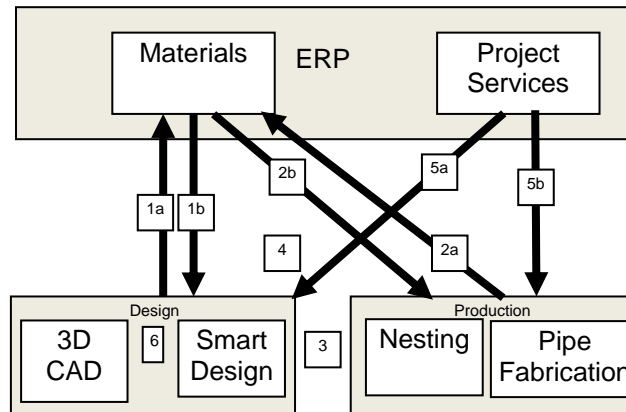
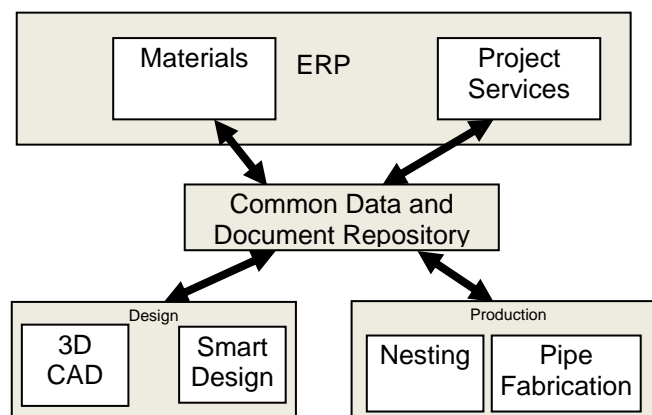

Figure 1: Data Exchanges
Figure 2: Data Exchanges with Common Repository
Figure 1 below outlines the effective data exchanges that will be the basis of the discussion.
Data exchanges for Arrow 6 in Figure 1 often have the same conditions.
To ensure the data exchanged is complete, consistent, and correct, the solution is to have a common technical data and document repository. This is depicted in Figure 2 below, with the data exchanges from Figure 1 moving in and out of the common repository as a central hub, rather than point-to-point exchanges.
There are three parts to material management integration from the scenario presented in Figure 1.
- BOMs from design and production tools contain correct material codes for ERP (1b and 2b from Figure 1)
- BOM information from design and production tools to ERP (1a and 2a from Figure 1)
- BOMs contain work breakdown consistent with ERP (5a and 5b from Figure 1)
As described in the Managing Data Exchanges section above, exchange 1a (design BOM to ERP) and 3 (design nesting information to nesting) from Figure 1 contain duplicate information, but for different contexts. Early in the design cycle, 1a and 3 could be combined to provide more detailed material estimates to ERP, bottom-up assembly information, and nesting information without marking lines and beveling for pre-nesting. The data from 2a is combined with 1a to provide ERP a complete picture of parts to be eliminated, and where they fit in the assembly hierarchy. As the design progresses, more detailed information can be added until final nest. The BOM is not limited to steel, but includes all piping, equipment, electrical, and HVAC materials from a myriad of applications, lists, etc.